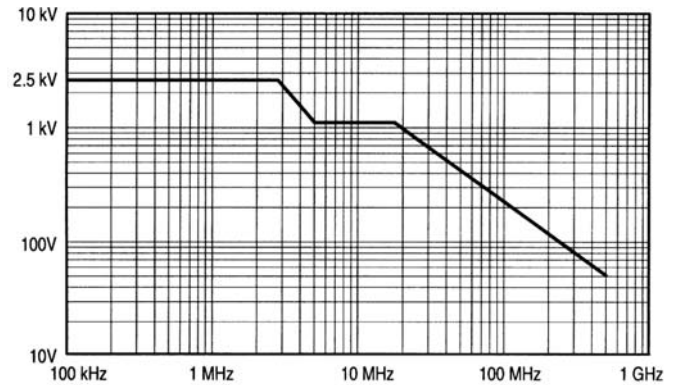

Figure 7.1. Example derating curve. Actual values and ranges will vary with specific products.
- To avoid RF (radio frequency) burns, do not handle the probe leads when the leads are connected to a source that's above the voltage and frequency limits specified for RF burn risk, as shown in Figure 7.1.